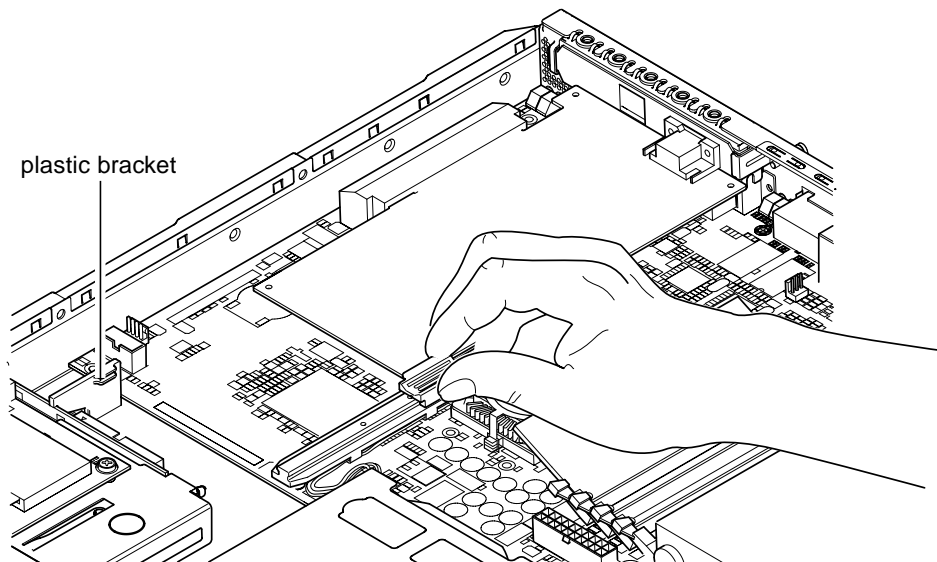

FIGURE 4-8 Using the PCI Card Retainer, Slide Support Rail, and Plastic Bracket
6. Slide the PCI card retainer into a position at the back of the PCI card to prevent excessive flexing of the board (see FIGURE 4-8).
If you are installing a full-length PCI card, insert the end of the card into the groove in the plastic bracket shown in FIGURE 4-8; this provides extra support.
3. **Move the PCI card retainer along the PCI slide support rail until it is no longer touching the PCI card (see FIGURE 4-8).**